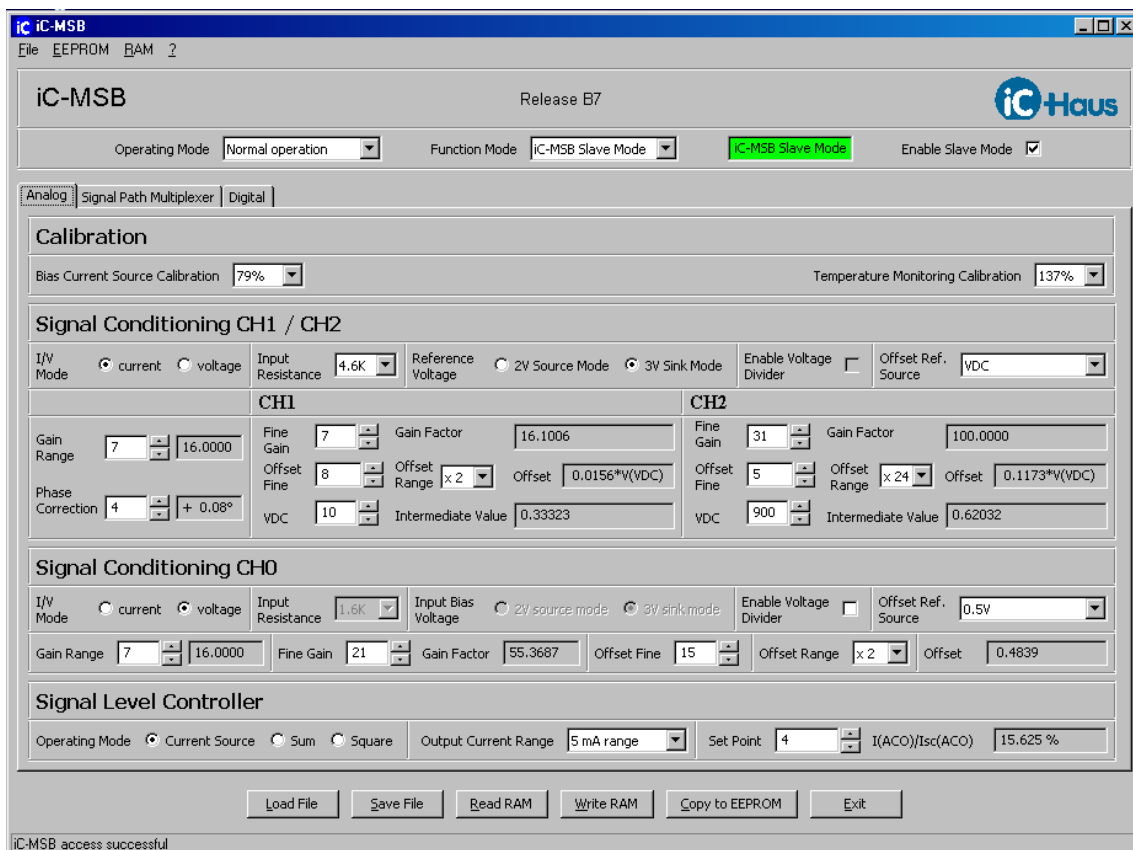

Figure 3: Screenshot
3. Installation will make the software "iC-MSB\_xx.exe" available in the selected working directory. The execution of this file will start the software. Figure 3 shows a screenshot of the start up window.